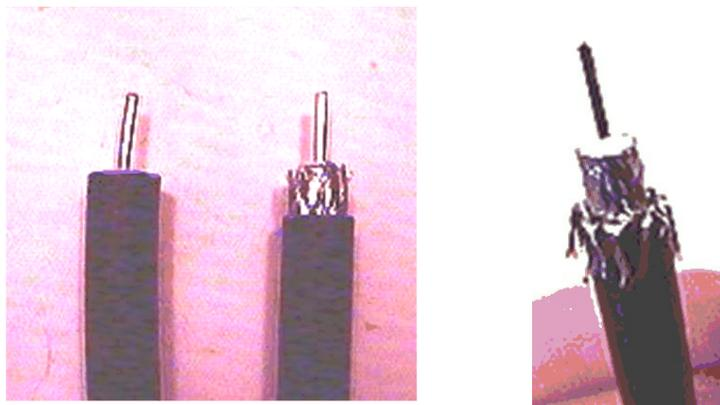

Figure C-3. Folding the Braid
4. Fold the braid back over the jacket and trim the braid to the length as defined under Length C in Table C-1 on page 64 and shown in Figure C-3.
9. Since the RG-11 connector has a built-in center pin, ensure that the coax center pin makes contact to the internal seizing pin of the connector. Refer to Figure C-3.